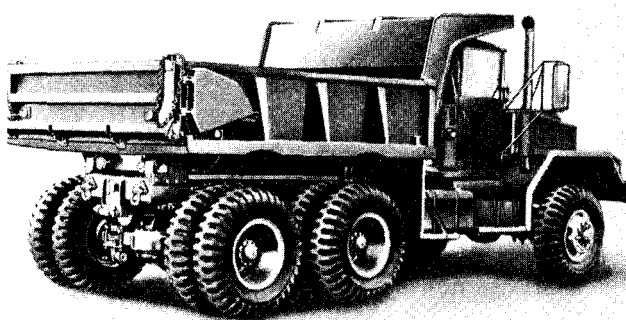

Figure 2-6. Truck, dump) 5-ton, 6x6, M817.
f. *Truck, Dump, M817 (Fig 2-6).* This truck has a 167-inch wheel base, with an hydraulically